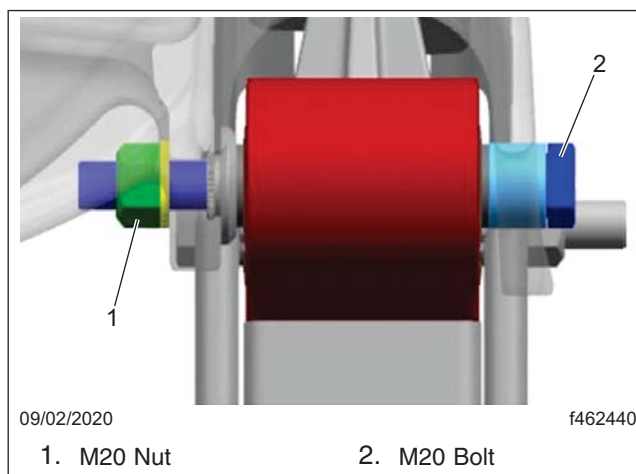

Fig. 4, Nut and Bolt Assembly to Inspect for Rotation
- 3.3 Check to determine if either part of the M20 nut and bolt assembly can be freely rotated by hand or with a wrench. See Fig. 4.